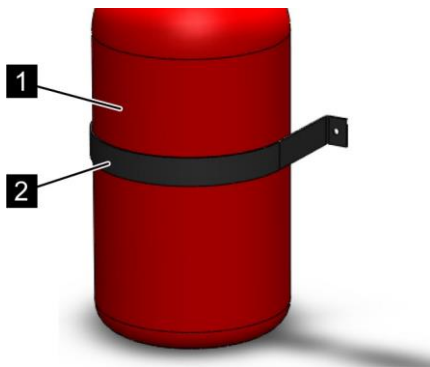

Fig. 140: Remove the clamp
8. ➔ Remove the clamp (Fig. 140/2) and carefully place the extinguishing agent container (Fig. 140/1) to the side.